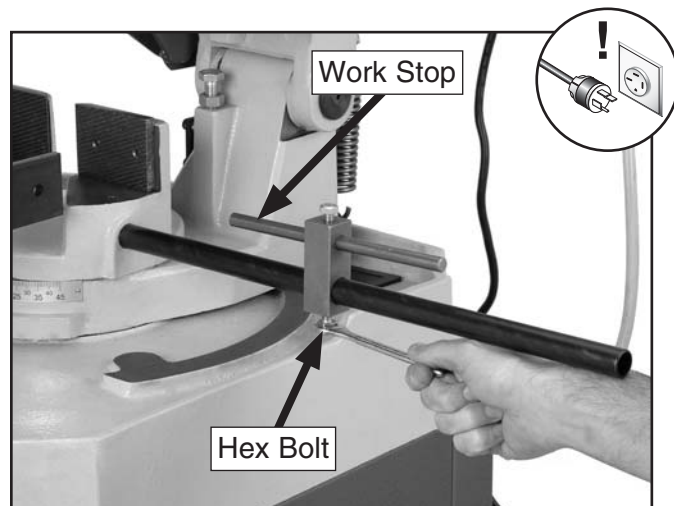

Figure 31. Work stop adjustment.
2. Loosen the work stop hex bolt (**Figure 31**).